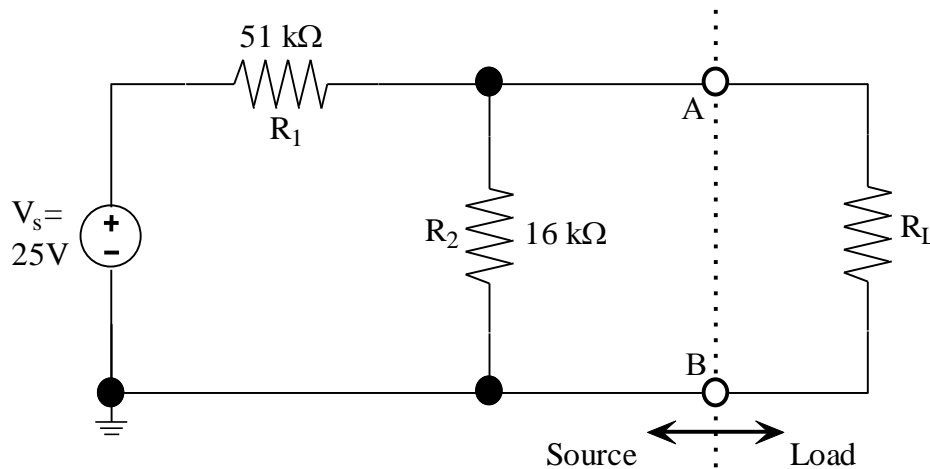

Fig. 4
- Consider the circuit in Fig. 4. Find the Thevenin and Norton equivalents of the source (to the left of terminal A and B) of the circuit. Enter computed values of the equivalent circuit parameters, V_T , R_T , I_N , and R_N to Fig. 5a and Fig. 5b, respectively.
- Set up the circuit in Fig. 4 on the protoboard and measure the load voltage and current, V_L and I_L for a load $R_L=10\text{ k}\Omega$ and compare your results with the expected values from your preparation.
- Confirm by measurement the value of the equivalent resistance R_T of the circuit shown in Fig. 4.